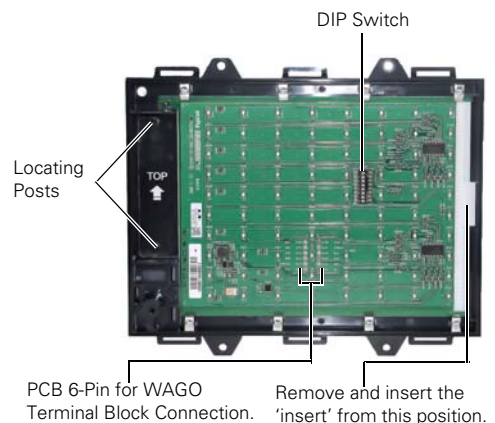
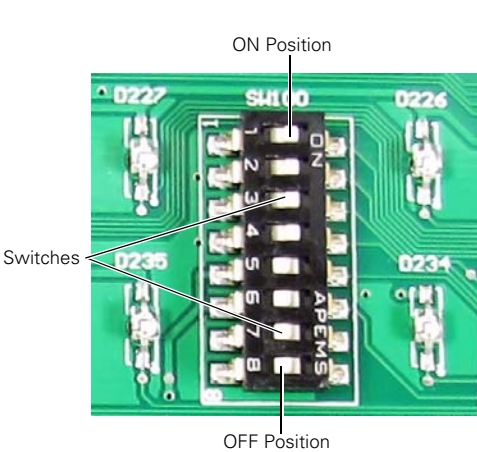

Fig. 10: Zonal Display - Rear View of Front Display
Fig. 12: Zonal Display DIP Switch
- 1 Inside the front cover of the zonal display, identify the exposed edge of the flexible plastic 'insert' labelled as 'TOP', which is just behind the PCB. Refer to Fig. 10.
- 4 On the opposite side of the 'insert'; insert the flat edge of a screw driver under the edge of the 'insert', and lift it clear. Refer to Fig. 10.
The DIP switch is located at rear of the front cover of the zonal display. Refer to Fig. 10 and Fig. 12.